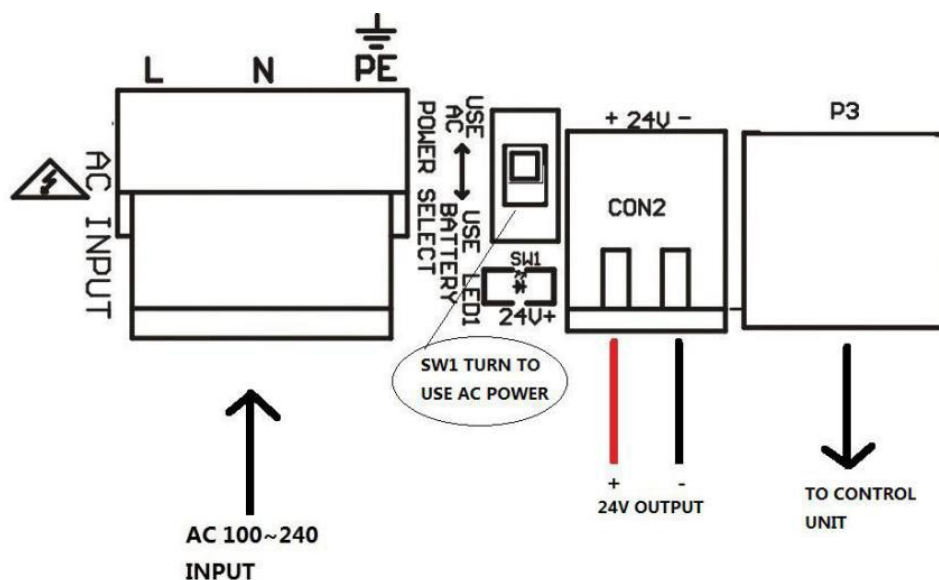

Fig. 4.1
2. To use AC power, please toggle the **SW1 Switch** to **USE AC POWER** as shown in **Fig. 4.1**.